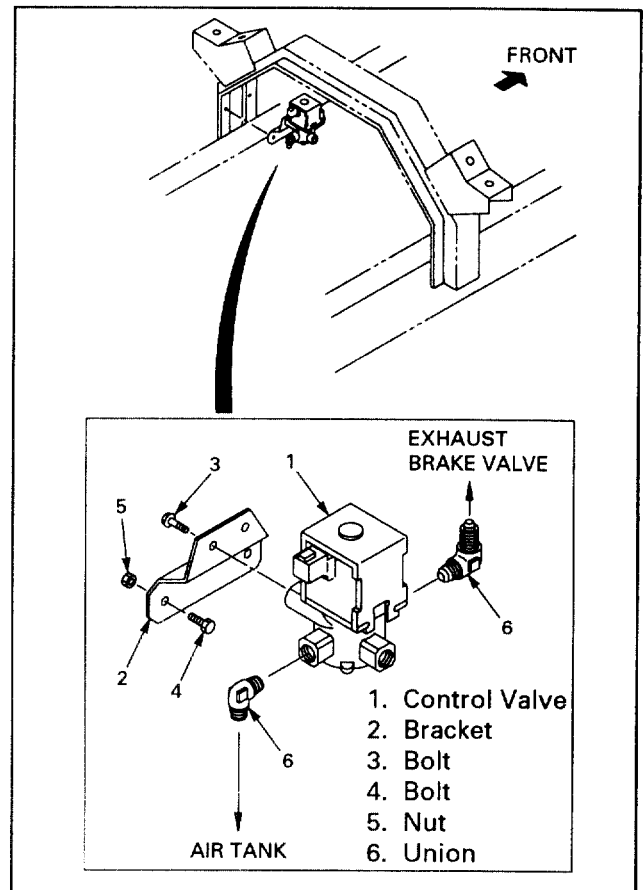

Figure 6 - Control Valve
- The control valve (1) is located inside the rear cab member (Figure 6).
### ↔ Remove or Disconnect (Figure 6)
### → Install or Connect (Figure 6)